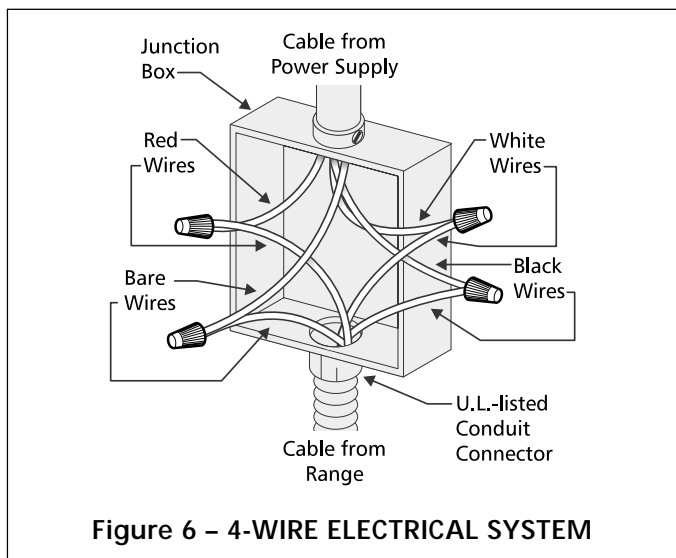

Figure 6 - 4-WIRE ELECTRICAL SYSTEM
2. Where local codes **DO NOT** permit, or if connecting to a 4-wire electrical system, **DO NOT** connect the cabinet-grounding conductor to the neutral (white) junction box wire (see Figure 6)